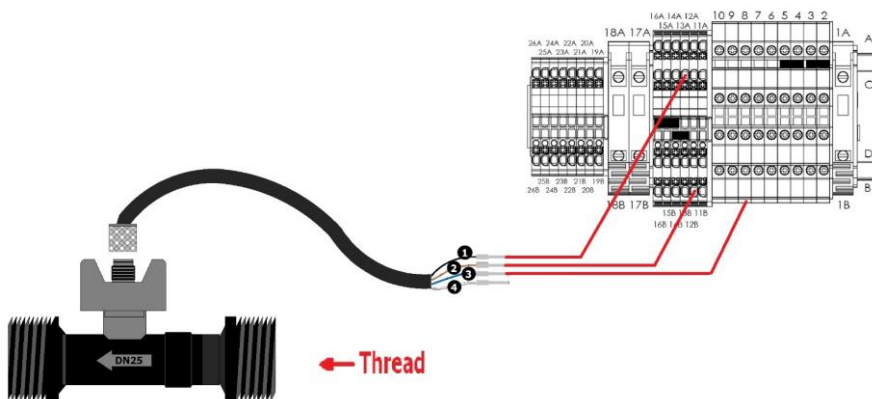

Figure 3-14: Flow Meter
- Connect the power supply to the corresponding position of the terminal block, as shown in **Figure 3-14**. This flow meter is directional, and the direction of water flow is the same as that of the arrow. The inlet is connected to the outer piping, and the outlet is connected to the inlet soft tube.
| Flow direction   | Refer to Figure 3-14 |